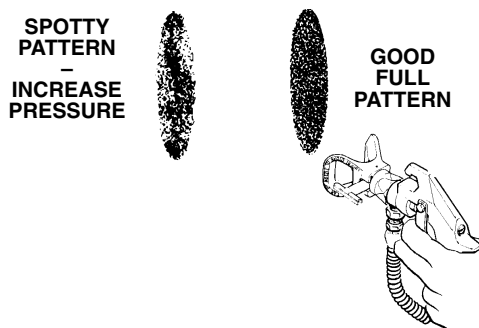

Fig 11–1
3. Adjusting the spray pattern (See Fig 11–1.)